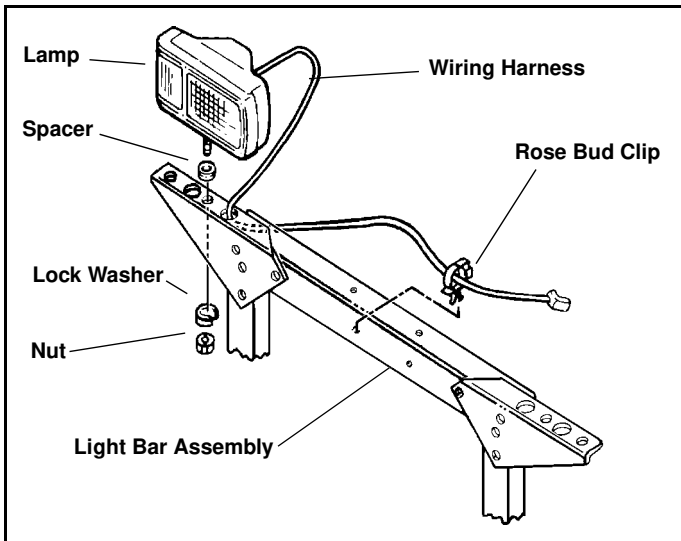

Figure 6
(See Figure 6)
5. Attach Plow section of Wire Harness to Upper Channel Assembly with Rosebud Clips provided. (See Figure 6)